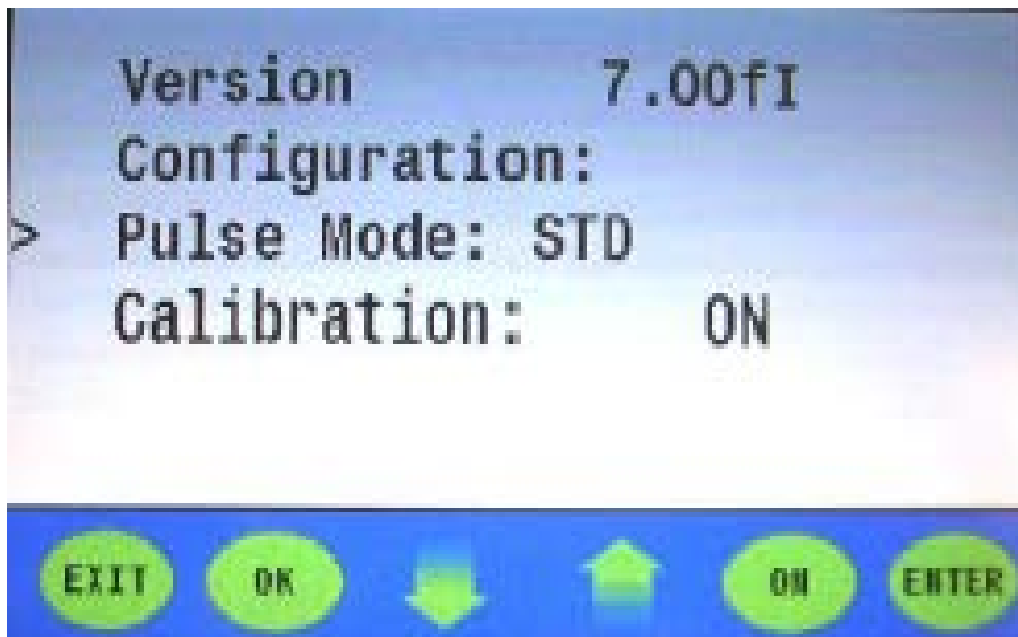

Figure 2
X. Appendix, Section C: Table Calibration: STD (multi-pulse) Mode (figures 2 – 9 & data tables)
1. Press the **Menu button**. Next, scroll down to pulse mode and press **Enter (figure 2)**.
X. Appendix, Section C Table Calibration: STD (multi-pulse) Mode (figures 2 – 9 & data tables)